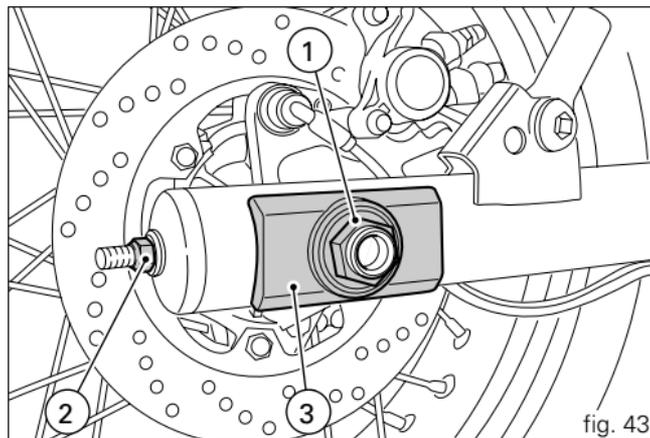

fig. 43
To adjust the tension, loosen the axle nut (1, fig. 43) and screw in the adjuster screws (2) on both sides of the swingarm by the same amount to tighten the chain or unscrew them to slacken it. In the latter case, you will need to push the wheel forward.
Check that the notches in the sliders (3, fig. 43) on both sides of the swingarm are lined up with the same positioning marks (A) to ensure that the wheel is aligned correctly.